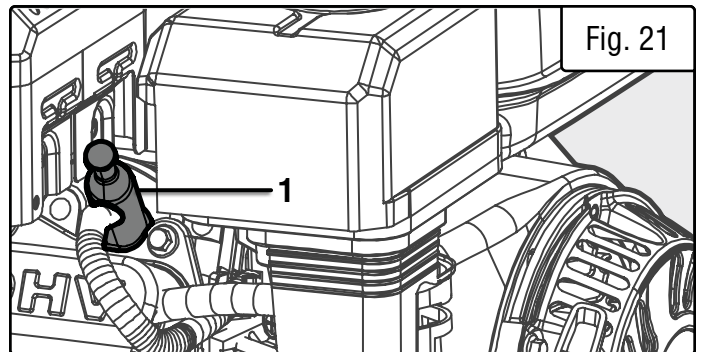

Fig. 21
1. Remove the spark plug boot (Fig. 21 - 1). Be careful not to tear insulation or wiring.